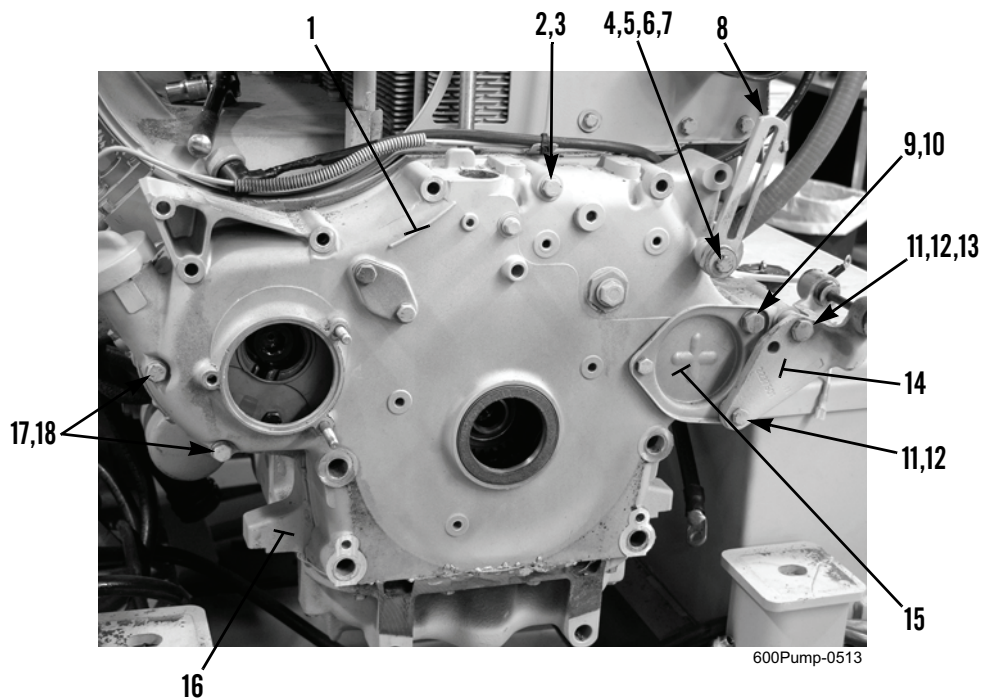

Figure 1. Engine Front Cover.
1. Remove bolt (Figure 1, Item 2) and washer (Figure 1, Item 3) from front cover (Figure 1, Item 1) and engine block (Figure 1, Item 16).
2. Remove bolt (Figure 1, Item 4), washer (Figure 1, Item 5), spacer (Figure 1, Item 6), two grommets (Figure 1, Item 7), and alternator adjustment bracket (Figure 1, Item 8) from front cover (Figure 1, Item 1).
3. Remove two bolts (Figure 1, Item 11), spacers (Figure 1, Item 12), nut (Figure 1, Item 13), and alternator support bracket (Figure 1, Item 14) from front cover (Figure 1, Item 1).
4. Remove bolt (Figure 1, Item 9) and washer (Figure 1, Item 10) from cover plate (Figure 1, Item 15).
5. Remove two bolts (Figure 1, Item 17) and washers (Figure 1, Item 18) from front cover (Figure 1, Item 1).